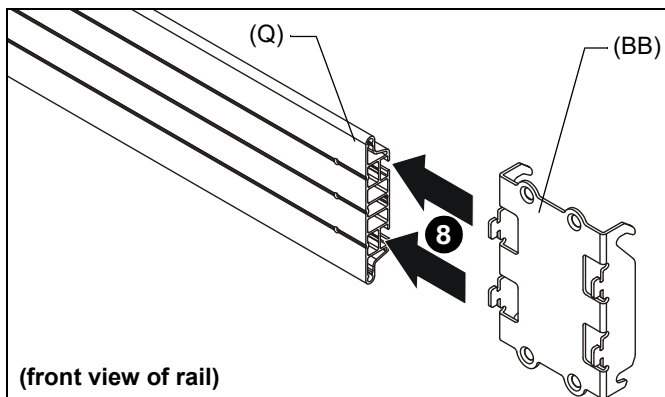

Figure 21
8. Slide height adjust plates (BB) into open end of mounting rail (Q). (See Figure 21)
- **LWM3X1M:** Insert two plates (BB)
- **LWM4X1M/LWM5X1M:** Insert three plates (BB)